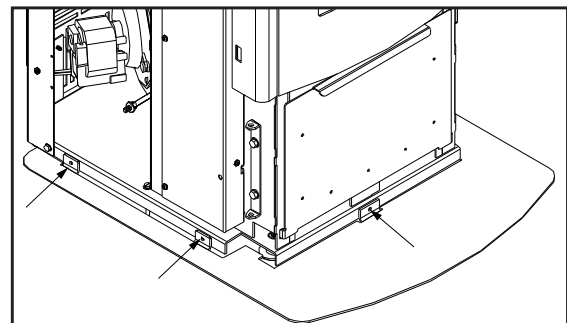

Figure 3: Mini Hearth Pad in Place.
3. Locate the five (5) screw holes (see Figure 3) and install #8-32 torx T-20 screws and tighten.